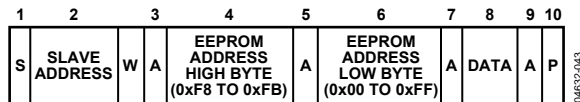

Figure 41. Single Byte Write to EEPROM
- To write a single byte of data to EEPROM. In this case, the command byte is the high byte of the EEPROM Address 0xF8 to Address 0xFB. The first data byte is the low byte of the EEPROM address, and the second data byte is the actual data, as shown in Figure 41.